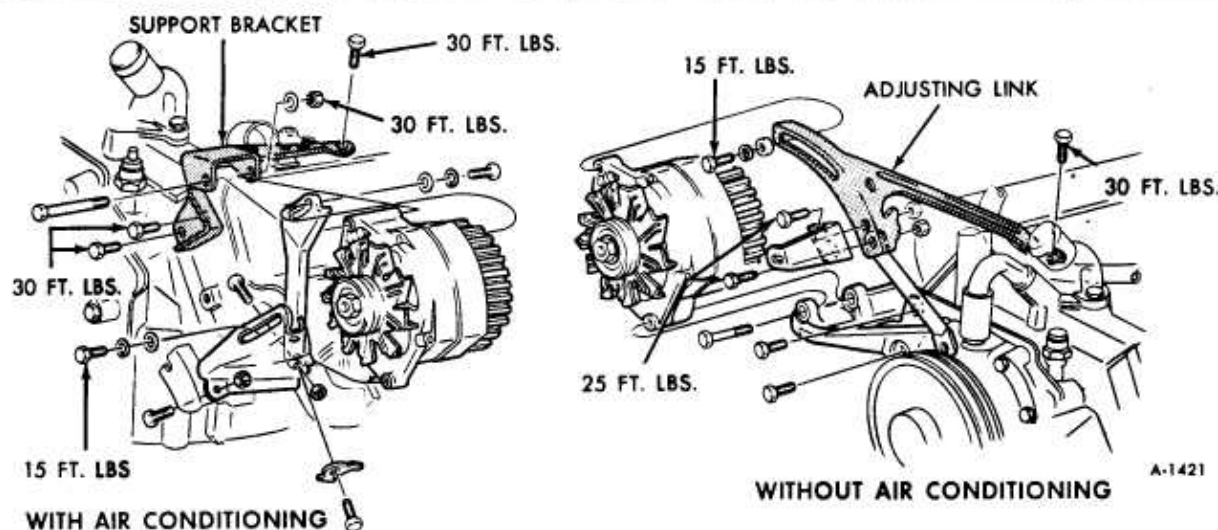

Figure 9-Generator Mounting
5. If vehicle is equipped with the standard 61 amp. generator loosen belt and remove brackets shown in Figure 9.
12. Install generator mounting bracket, if removed. See Figure 9.